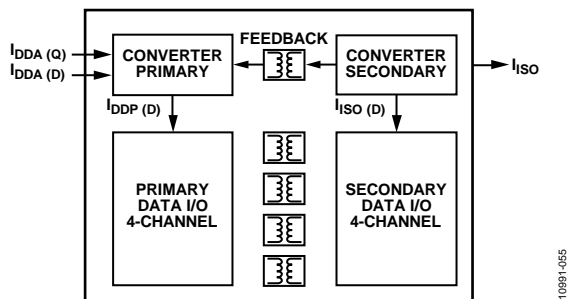

Figure 55. Power Consumption Within the ADuM447x
The VDDA power supply input provides power to the iCoupler data channels, as well as to the power converter. For this reason, the quiescent currents drawn by the data converter and the primary and secondary I/O channels cannot be determined separately. All of these quiescent power demands have been combined into the IDDA(Q) current, as shown in Figure 55. The total IDD supply current is equal to the sum of the quiescent operating current; the dynamic current, IDDA(D), demanded by the I/O channels; and any external IISO load.